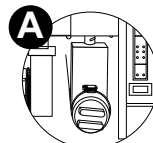

Figure 13.2e
2. Locate the Quick Drain Valve, Figure 13.2e.